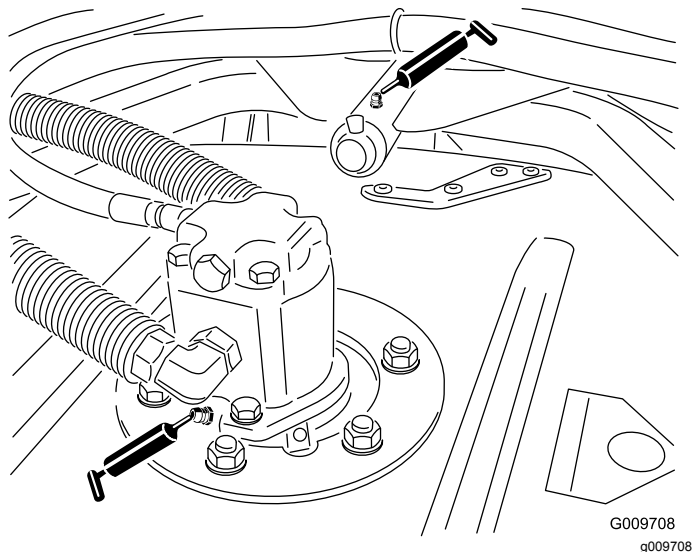

Figure 62
- Cutting-unit spindle-shaft bearings (2 per mower deck) as shown in Figure 62